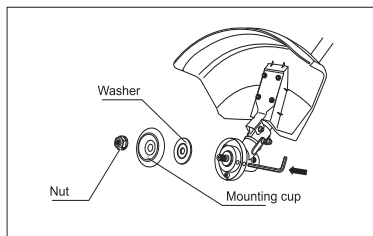

fig. 5
1. Align the holes in the gearbox cup and the flange washer. Insert the metal locking pin or hex key from the delivery set into the holes of the gearbox cup and the flange washer. Rotating the nut clockwise, remove it, as well as the cup and washer from the gear spindle (fig. 5).